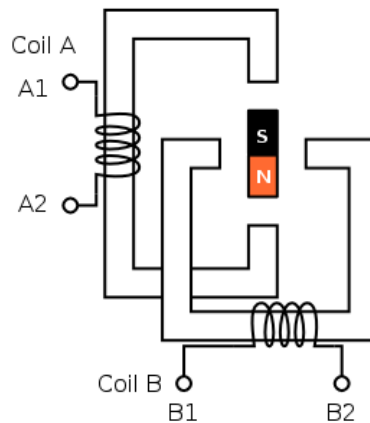

Figure 2: Bipolar Stepper Motor.
**Bipolar Stepper Motor.** Consider a two-phase bipolar stepper motor with coils A and B as shown in the Figure 2. These coils are arranged in the stator (stationary part of the motor) in opposite orientations with respect to the rotor. As discussed in class, to execute a full rotation with a bipolar motor both positive and negative voltages must be generated across the coils. This usually requires use of an H-bridge drive.